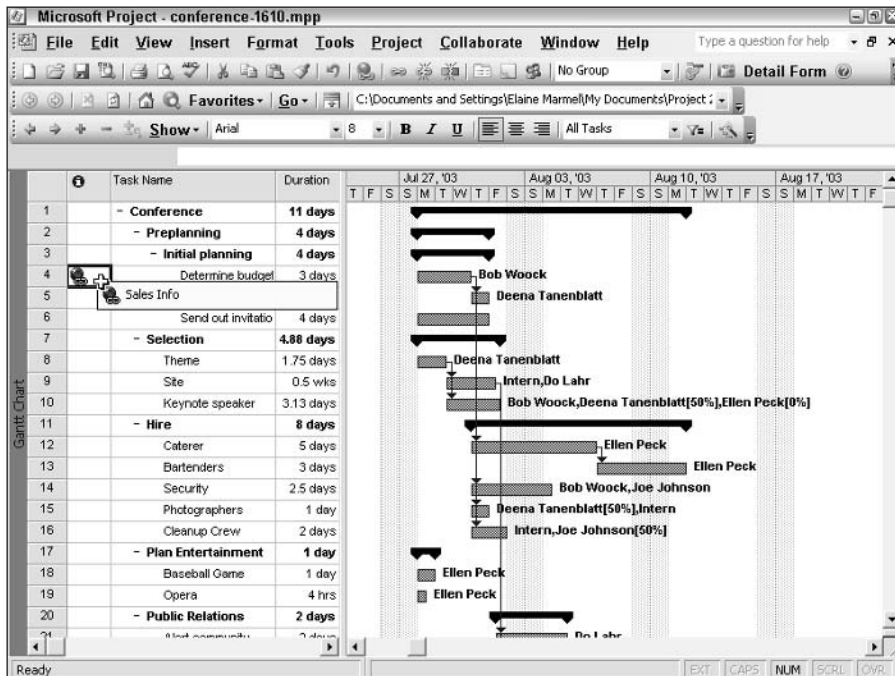

Figure 16-25: To go to a URL or file, click the hyperlink icon.
5. Click OK to insert the hyperlink. A hyperlink icon, like the one shown in Figure 16-25, appears in the Indicator field to the left of the selected task.